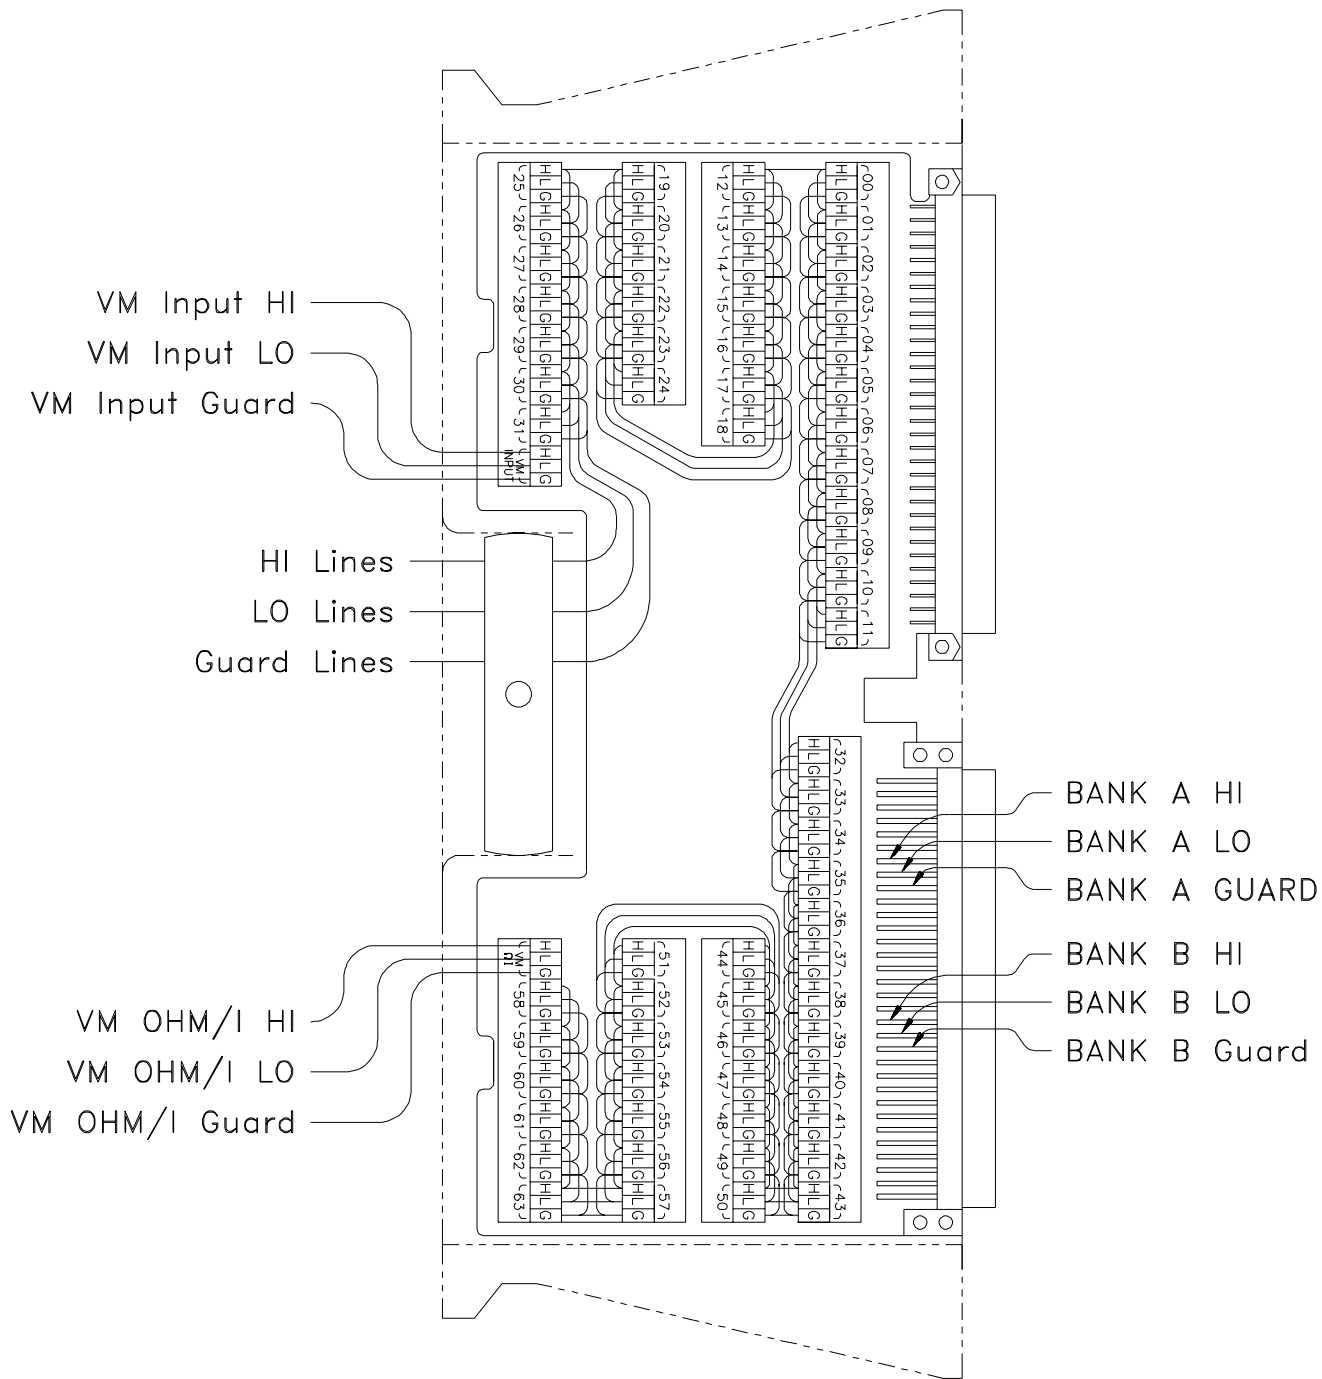

Figure 2-1. Agilent E1476A Test Fixture Wiring
A test fixture is required for the Performance Verification tests. A test fixture can be manufactured from a standard Agilent E1476A terminal module. It is recommended that you order an extra terminal module to use as a test fixture. The terminal module part number is E1476-80001. Figure 2-1 shows how the test fixture should be wired. Use 24AWG wire when making the test fixture.
1. Hardware Connections. See Figures 2-1 and 2-2.
5. Hardware Connections. See Figures 2-1 and 2-3.
9. Hardware Connections. See Figures 2-1 and 2-4.